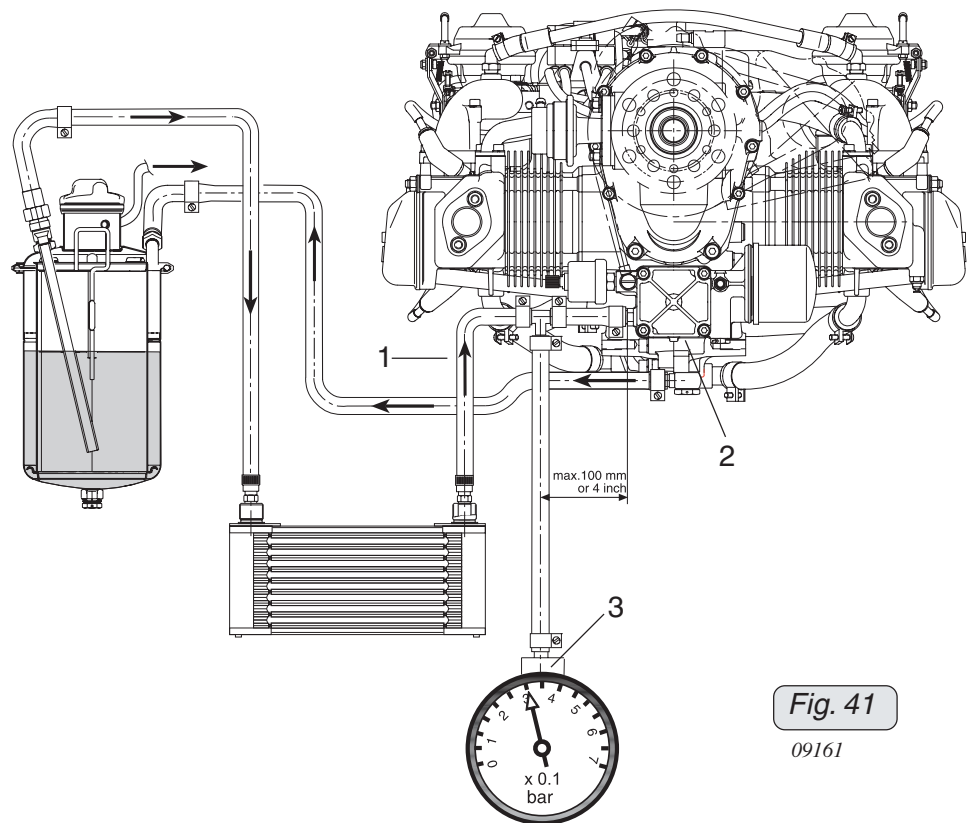

Fig. 41
At take-off performance the indicated vacuum (3) must not be more than 0,3 bar (4.35 psi) otherwise the oil hose (1) could collapse and thus blocking the oil supply to the engine (Fig. 41).